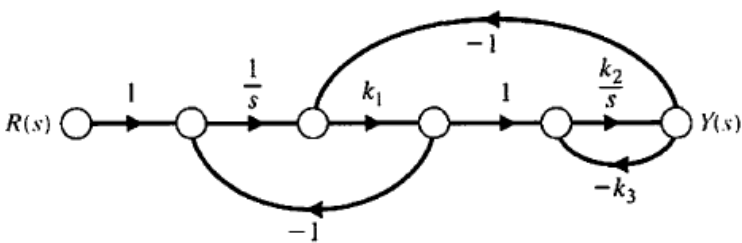

FIGURE E2.23 Control system with three feedback loops.
8. Determine the closed-loop transfer function $T(s) = Y(s)/R(s)$ for the system of Figure E2.23.